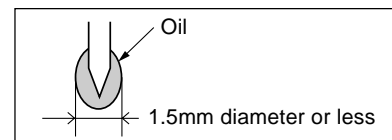

Fig. 1
- One drop of oil is the amount shown in the Fig. 1, on the point of a pin.